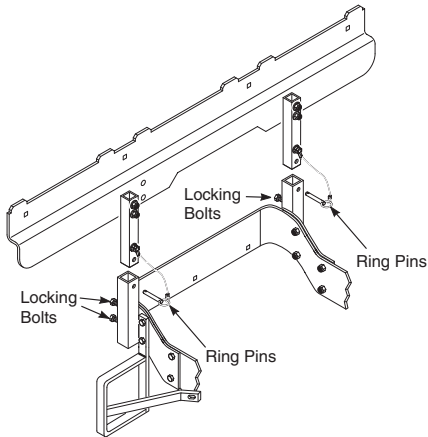

FIGURE 3-8
- Attach the hood assembly to the machine by installing the mounting post into the hopper mounting brackets. Secure with the ring pins and tighten the locking bolts. See Figure 3-8.